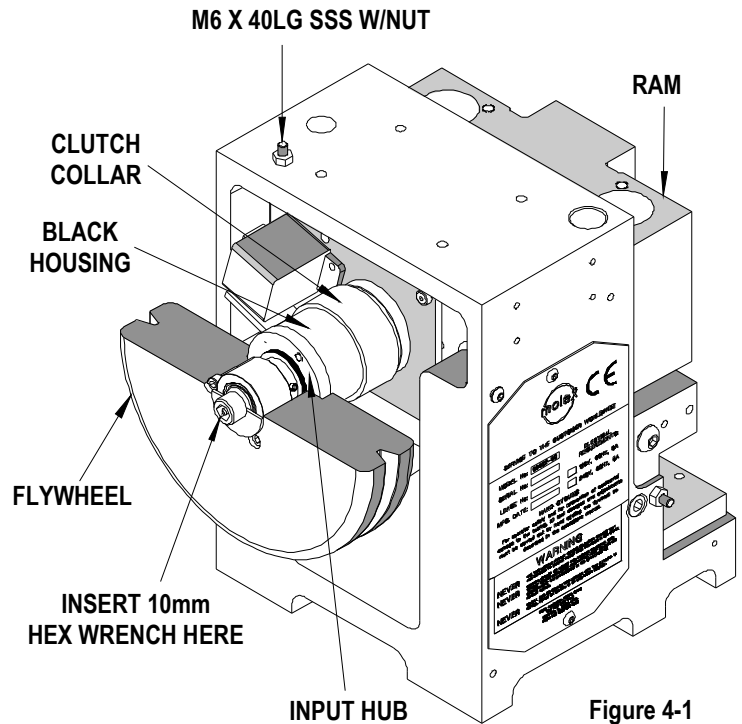
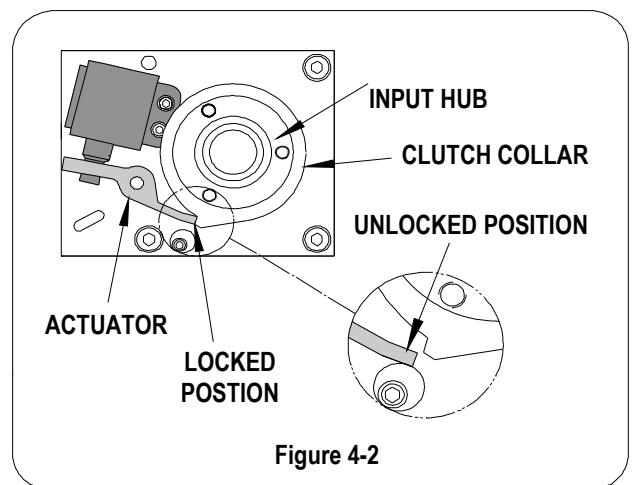

Figure 4-1
Figure 4-2
CAUTION: By disengaging the actuator (See Figure 4-2) the ram will be free to move. The weight of the ram can result in downward motion. Use caution to ensure that the area under the ram is clear of fingers and hand tools. The machine guard should be in place.
1. Remove the rear cover of the TM-42 unit. Verify that the clutch control collar is in the locked position (See Figure 4-2). Insert the 10mm hex wrench into the socket head cap screw. This screw is located in the center of the flywheel (See Figure 4-1). This screw is spring loaded to prevent being left in the unit.
3. Next rotate the input hub/flywheel clockwise by hand. The input hub/flywheel should be free to rotate. During this portion of the operational check, the black spring housing should not rotate. See Figure 4-1.
1. Verify that the clutch control collar is unlocked. See Figure 4-2. The crankshaft, input hub/flywheel, and black spring housing should rotate freely with the 10mm wrench moving the ram down and up.
2. Locate the retaining ring in front of the clutch control collar. See Figure 4-1. Using a regular tip screwdriver, unseat the ring from its groove and slide it towards the flywheel.